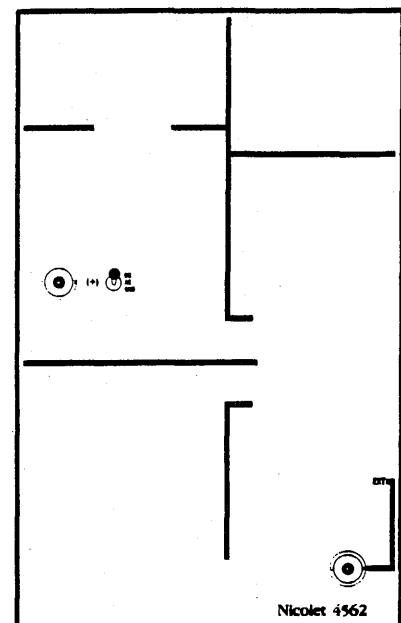

Figure 6-12
- #1. Connect the function generator's output to the Channel A (+) input BNC and its sync output to the external (EXT) trigger input BNC (Figure 6-12).
If necessary, adjust the Channel A POSITION control (Figure 6-12) so that the input signal appears approximately in the middle of the screen.